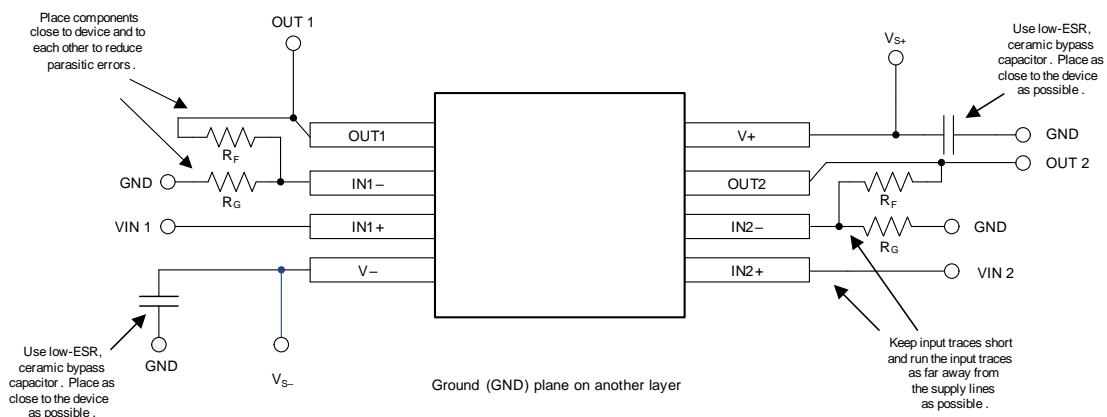

Figure 44. Layout Example
- Place the external components as close to the device as possible, as shown in Figure 44. Keeping R_F and R_G close to the inverting input minimizes parasitic capacitance.